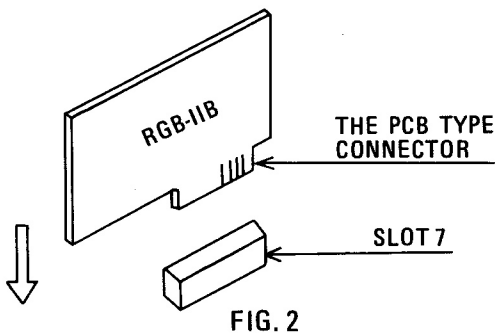

FIG. 2
(2) Inspect the PCB type connector on the RGB-IIB module to make sure that it is clean and the contacts are bright. Then insert the module into mother-board SLOT 7 which is located at the right end of the mother PCB, making certain that it is fully bottomed in the P.C. card connector as shown in Fig. 2.
- (2) Inspect the PCB type connector on the RGB-IIB module to make sure that it is clean and the contacts are bright. Then insert the module into mother-board SLOT 7 which is located at the right end of the mother PCB, making certain that it is fully bottomed in the P.C. card connector as shown in Fig. 2.